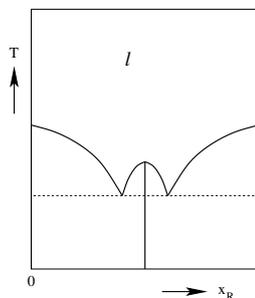

Figure 1: Phase diagram of a racemic compound.
In Figure 1 you can find a typical  $x, T$  phase diagram for a racemic compound.
- c) Determine which phase can be found where in the diagram of Figure 1 and examine what happens if a liquid solution with an initial composition of  $x_R \neq 0.5$  is cooled until it is completely solid.